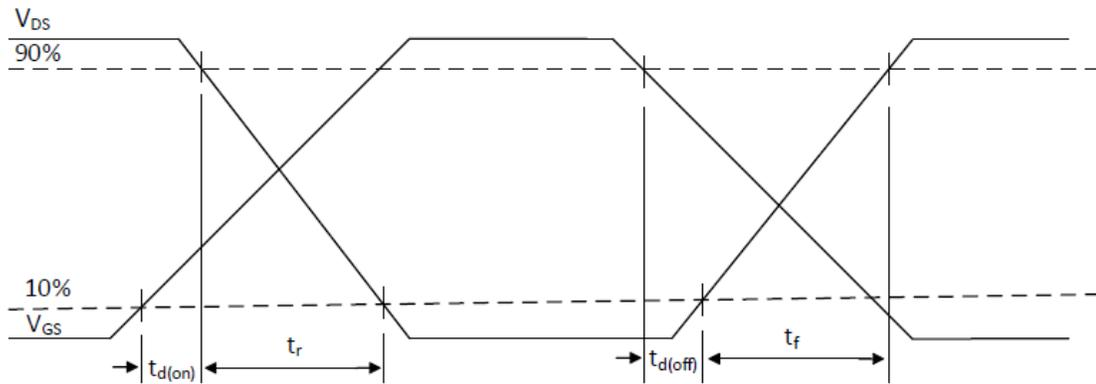

Figure 17: switching time waveforms
(6) See Figure 17 for switching loss test circuit